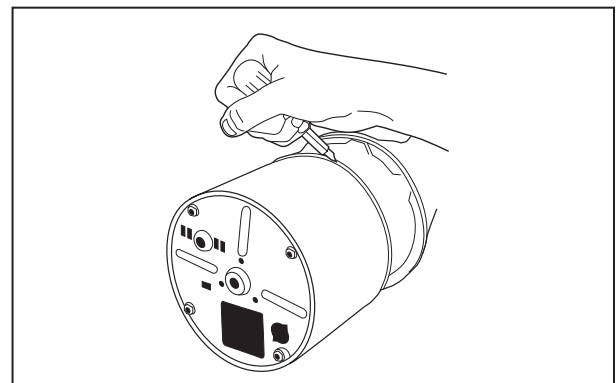

Figure 4.4
3. Place disposer on side and tap upper end bell gently with rawhide mallet to slightly separate from stator assembly, then insert flat blade screwdriver blade and twist to fully separate (see Figure 4.4).